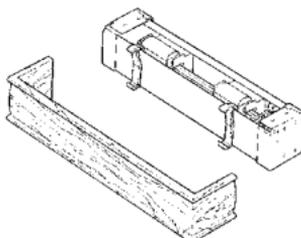

Figure E3
5. Center the valance on the headrail. (See Figure E3)